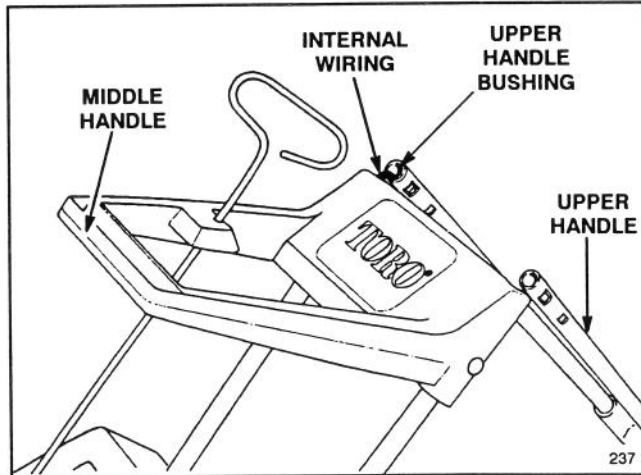

Figure 1
- Thoroughly inspect the open internal wiring (Fig. 1) before assembling snowthrower. If wiring is damaged, do not assemble or plug in snowthrower. Contact your TORO Service Dealer or TORO Service Center.
1. Stand snowthrower upright and position upper handle in inverted position to prepare for handle assembly (Fig. 1). Inspect the open internal wiring for damage.
**Note:** Do not remove bushing from upper handle tube (Fig. 1).